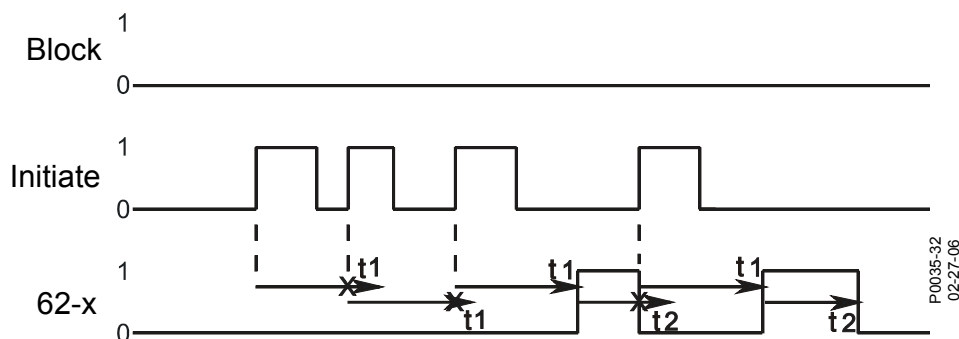

Figure 69-5. One-Shot/Retriggerable Mode
- Step 7: Use the Metering Explorer in BESTCOMSP^{Plus} to open the Reports, Sequence of Events screen. Verify that approximately 15 seconds after the second 43-1 OFF to ON initiate signal, the 62-1 timer output went true. Verify that the timer output went false when the third OFF to ON initiate signal forced the 62-1 time delay 1 to restart. Figure 69-5 illustrates the timing relationship of the 43-1 switch and 62-1 timer.